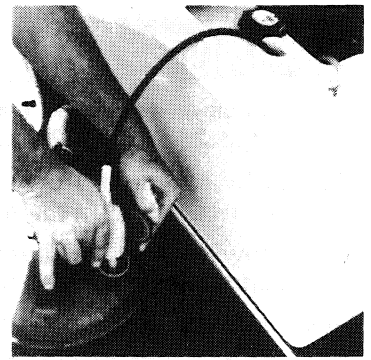

Figure 11
2. Using a siphon with a suction device (See Figure 11), drain all of the gas out of the tank into an approved gasoline container.